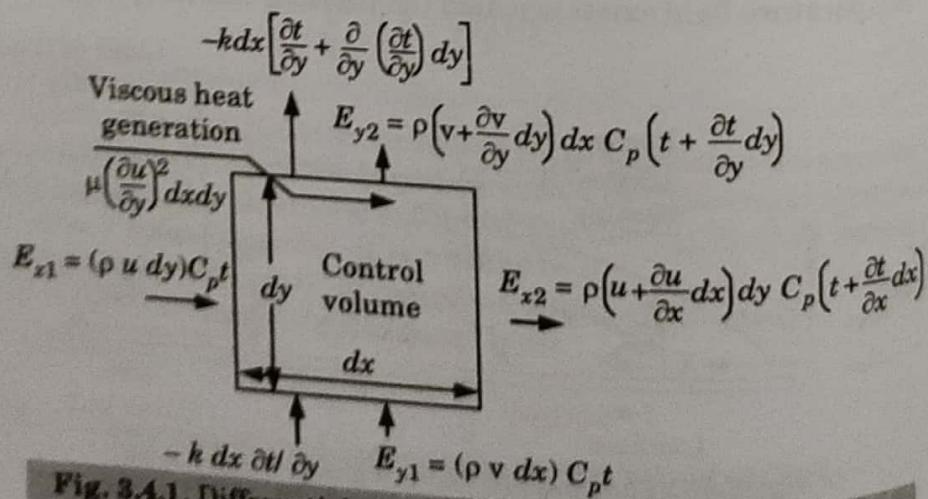

Fig. 3.4.1. Differential control volume for energy conservation in thermal boundary layer.
1. For an element of dimensions ($dx \times dy \times$ Unit depth) in the boundary layer the quantities of energy entering and leaving are shown in Fig. 3.4.1.